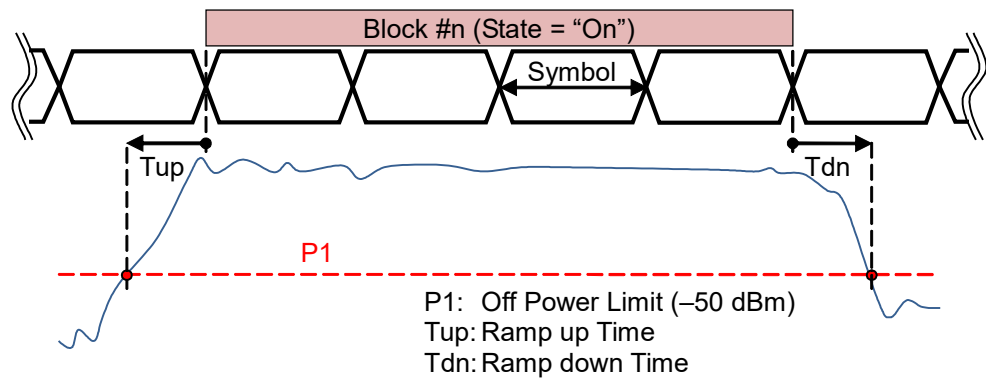

Figure 3.22-5 Block Ramp up / Ramp down Calculation Range
Refer to Figure 3.22-5 Block Ramp up / Ramp down Calculation Range
- Figure 3.22-5 shows the calculation range of Ramp up and Ramp down.